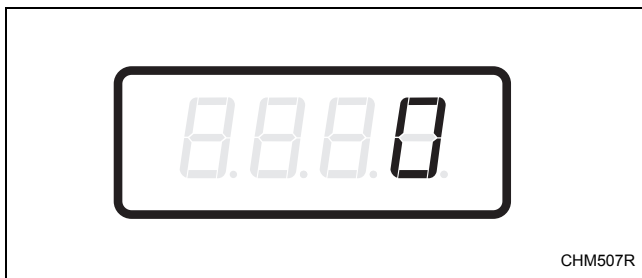

Figure 15
2. When “SA11” appears in the display, press the START (enter) keypad. There are five digits in the Special Vend A Vend Price #1. The fifth digit will appear in the display and will flash one second on and one second off. Refer to *Figure 15*.